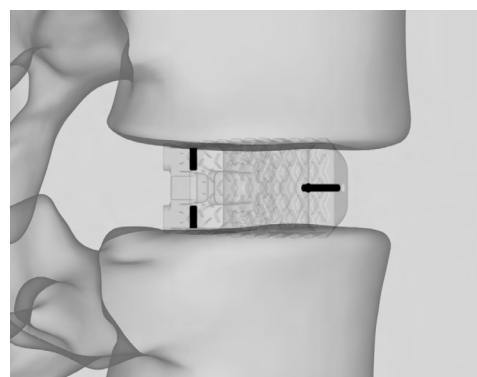

Figure 11D
The lateral view should show one (1) horizontal pin at the anterior face of the implant and two (2) vertical pins at the posterior face of the implant (at the superior and inferior implant surfaces) (Figure 11D).